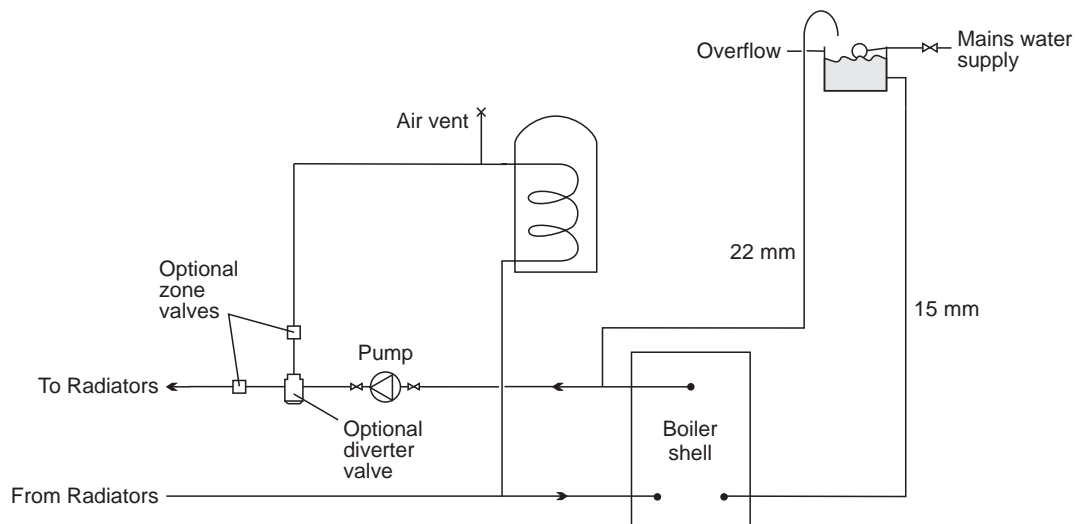

Fig. 9 - 50/70, 70/90 and 90/120 connections shown
3.10.2 Fully pumped - (See Fig. 9)